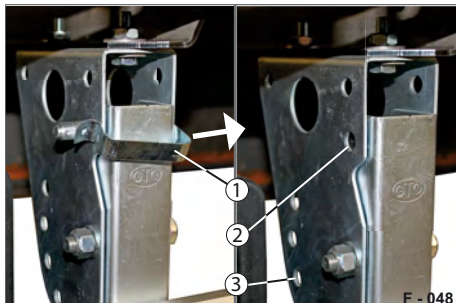

Fig. 70 Unlocking
- ▶ Pull the locking bolt (Fig. 70/1) - on both sides of the side guard - out of the upper hole.
- ▶ Slide the locking bolt (Fig. 70/1) on both sides of the side guard into the same hole of the adjustment grid (Fig. 70/3).
- ▶ Raise the side guard (Fig. 66/1) slightly and pull out the locking bolts (Fig. 70/1) on both sides.
- ▶ Insert the locking bolts (Fig. 70/1) on both sides.